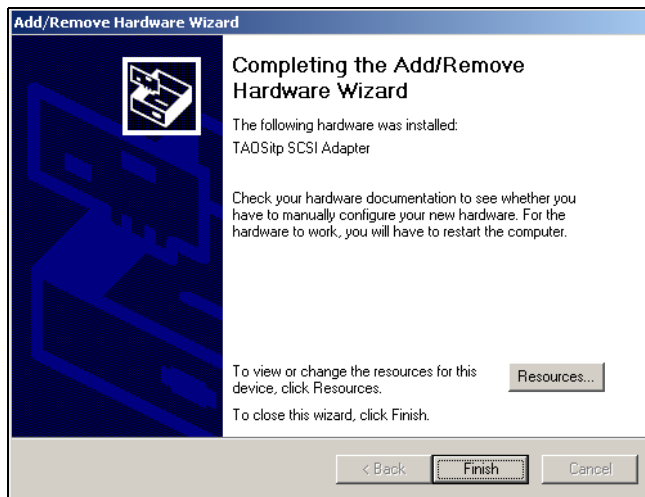

Figure 7-33 *The Completing the Add/Remove Hardware Wizard window, click Finish.*
33. Click **Finish** to complete the installation (Figure 7-33).